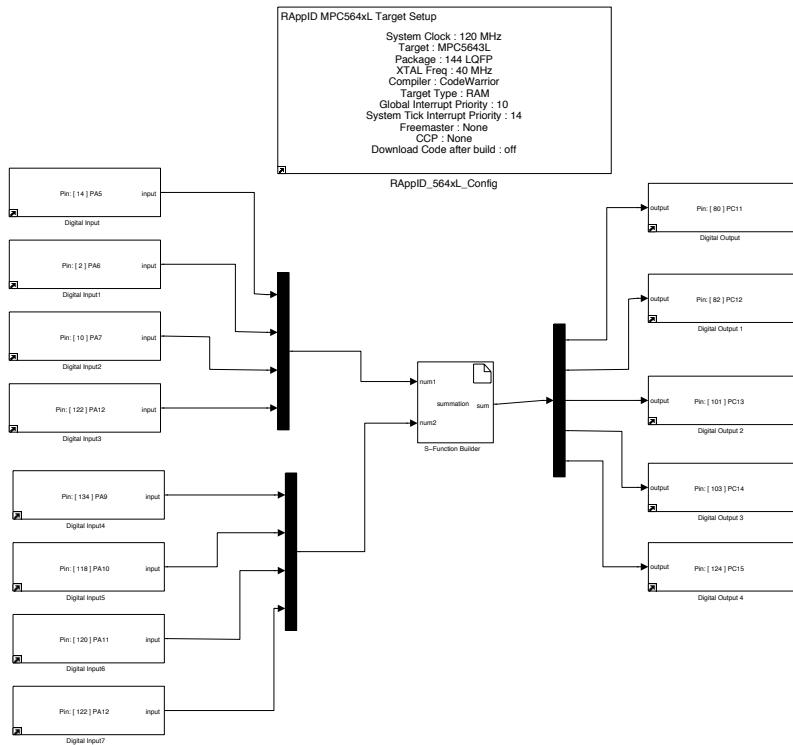

Figure 10: First order system simulation.
1. Incorporate the NXP Model Based Design blocks provided on the lab computers in your model. First, add the MBD\_S32K1xx\_Config\_Information Block to your model. Next, replace all of the Constant Blocks with Digital\_Input Blocks. Replace all the Display Blocks with digital\_Output Blocks. Select the appropriate pin for each block by double clicking on each block. See figure 10 for reference. You can find the blocks in the Simulink Library Browser: **NXP Model-Based Design Toolbox for S32K MCUs/ S32K14x MCUs/ S32K1xx Core, System, Peripherals and Utilities/ GPIO Blocks**.